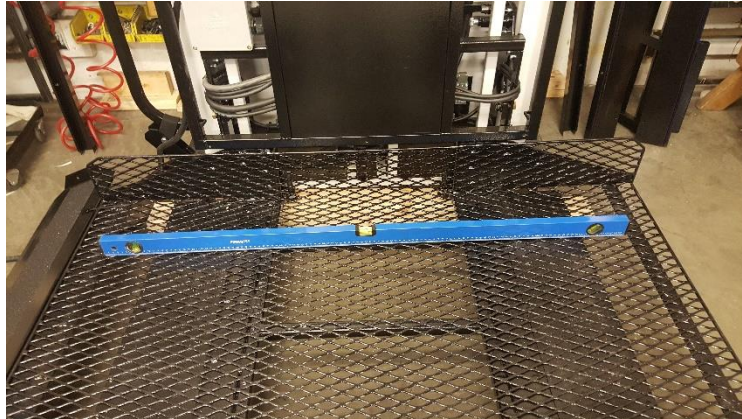

Figure 6
4. Manually adjust mechanical stops so they contact the foundation at the same time, this will prevent the carriage from twisting – ref. figure 6